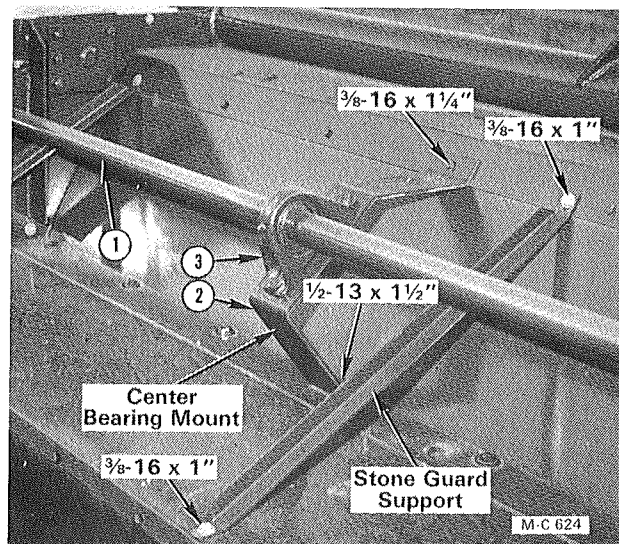

Figure 6 - Model 180SB Shown
2. Install the center bearing mount with a  $\frac{3}{8}$ -16 x  $1\frac{1}{4}$ " capscrew (Grade 5), flatwasher and locknut at the top, and a  $\frac{1}{2}$ -13 x  $1\frac{1}{2}$ " capscrew (Grade 5), flatwasher, lockwasher and hex nut at the bottom, see Figure 6.
2. Install the stone guard support in the new location with  $\frac{3}{8}$ -16 x 1" capscrews (Grade 5), flatwashers and locknuts, see Figure 6 & 7.
4. Install the center bearing mount with a  $\frac{3}{8}$ -16 x  $1\frac{1}{4}$ " capscrew (Grade 5) flatwasher and locknut at the top, and a  $\frac{1}{2}$ -13 x  $1\frac{1}{2}$ " capscrew (Grade 5) flatwasher, lockwasher and hex nut at the bottom, see Figure 6.
1. Place the new pillow block bearing on the center bearing mount with the lubrication fitting facing to the front, see Figure 6. Bolt the bearing to the bearing mount loosely with  $\frac{1}{2}$ -13 x  $1\frac{3}{4}$ " capscrews (Grade 5), SAE  $\frac{1}{2}$ " flatwashers, lockwashers and hex nuts. Loosen the two set screws in the bearing lock collar.
(Ref. No's. Shown on Figure 6)